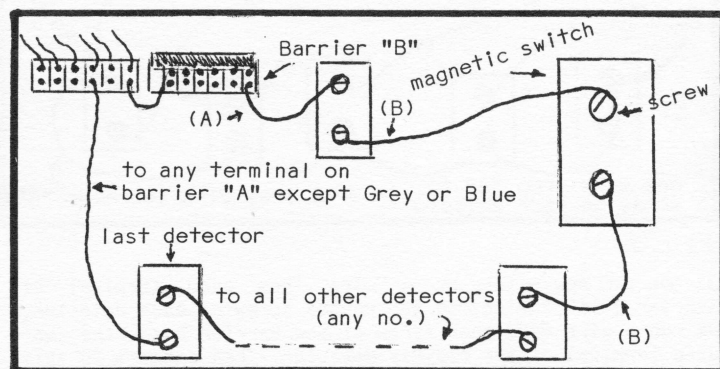

Fig. 2
You have a choice here. If you want the alarm to be able to tell you where a break-in has occurred, you will have to run double wires to every detector in the house. The simple hook-up is to just make one big closed loop alarm circuit (see Fig. 2). Then you have one wire coming off the barrier strip, connecting between every detector, and a wire coming back to the computer completing the circuit. You probably would want to do it this way, as you might not care to know exactly where a break-in is occurring...you'll be ready with your UZI.
2) Using 20 or 22 gauge stranded wire (or whatever you you prefer, single conductor, ect.), run a wire from a screw on the common barrier (connected to the GREY wire), to one terminal of whichever detector is closest to the computer (see Fig. 2, part A).
3) Now run a wire from the second terminal of the detector to a terminal on the next nearest detector. Continue stringing detectors together as in Fig. 2, part B.